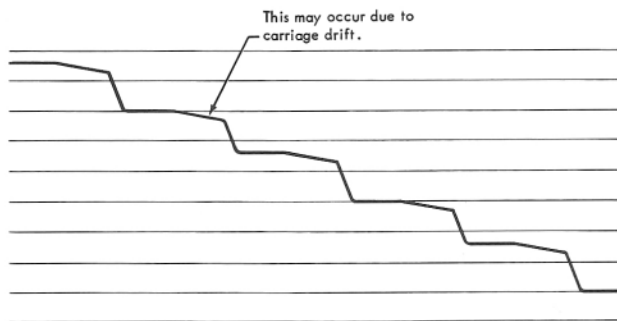

Figure 19. Bypass Adjusted Correctly
- Turn out on the bypass needle valve until the line graph just resembles Figure 19. Turn out an additional $\frac{1}{8}$ or $\frac{1}{4}$ turn and lock in this position.